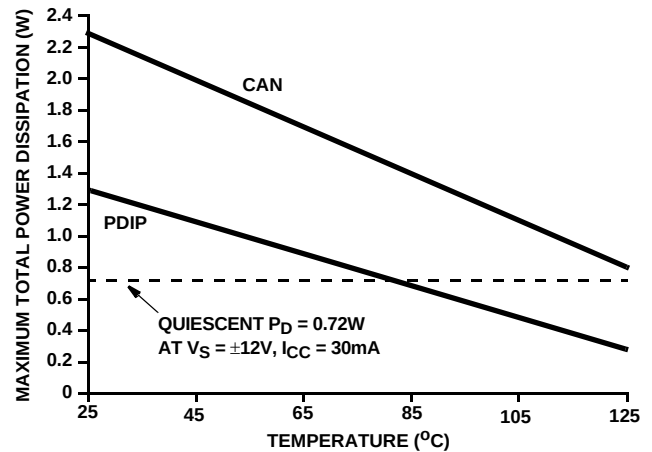

FIGURE 5. MAXIMUM POWER DISSIPATION vs TEMPERATURE
1. Maximum power dissipation, including load conditions, must be designed to maintain the maximum junction temperature below  $175^{\circ}\text{C}$  for the metal can package, and below  $150^{\circ}\text{C}$  for the plastic packages (See Figure 5.).
3. The maximum operating temperature may have to be derated depending on the output load condition. See Figure 5 for more information.
Figure 5 is based on: